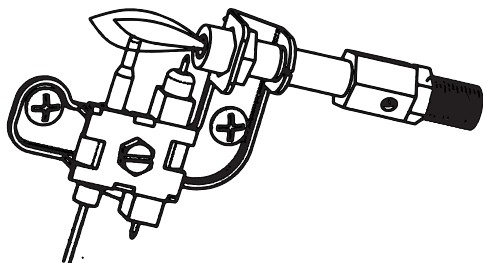
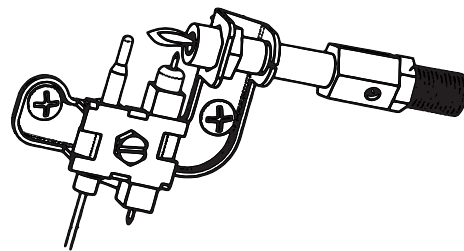

Fig. 18: Correct Pilot Flame Pattern
Fig. 19: Incorrect Pilot Flame Pattern
Fig. 18 shows a correct pilot flame pattern. Fig. 19 shows an incorrect pilot flame pattern. The incorrect pilot flame is not touching the thermocouple. This will cause the thermocouple to cool, which shuts the heater off. If pilot flame pattern is incorrect: turn heater off (see “To Turn Off Gas to Appliance” on page 20) (see Troubleshooting pages 24 through 26.)
4. Blow air through the ports/slots and holes in the burner. Also clean the pilot assembly. A yellow tip on the pilot flame indicates dust and dirt in the pilot assembly. There is a small pilot air inlet hole about two inches from where the pilot flame comes out of the pilot assembly (see *Fig. 18 & 19 on page 20*). With the unit off, lightly blow air through the air inlet hole. You may blow through a drinking straw if air is not available.